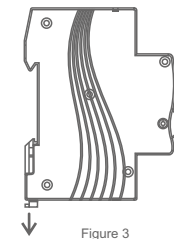

Figure 3
- b. Disassemble: Pull the fixed buckle of the RCBO down in the arrow direction as shown in figure 3, and then pull the RCBO as shown in figure 4. The lower end of the RCBO is lifted up and pushed upward, then the RCBO can be removed.